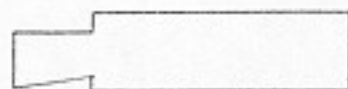
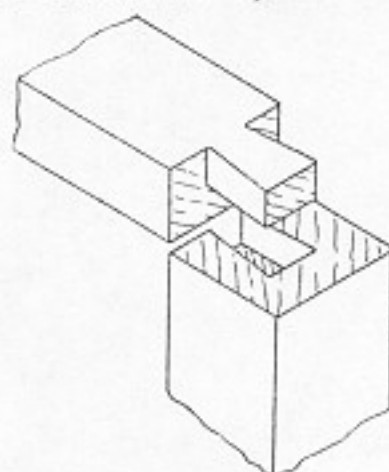

Fig. 205. Dovetail lap with one straight edge.
Fig. 206. Dovetail-lap joint.
6. A dovetail-lap joint sometimes is made with only one slanting side (Fig. 205). It is used in the same way as one with two slanting sides. Often it does not extend across the entire width of the wood (Fig. 206). In the latter case the entire recess for the dovetail must be worked out with a chisel.